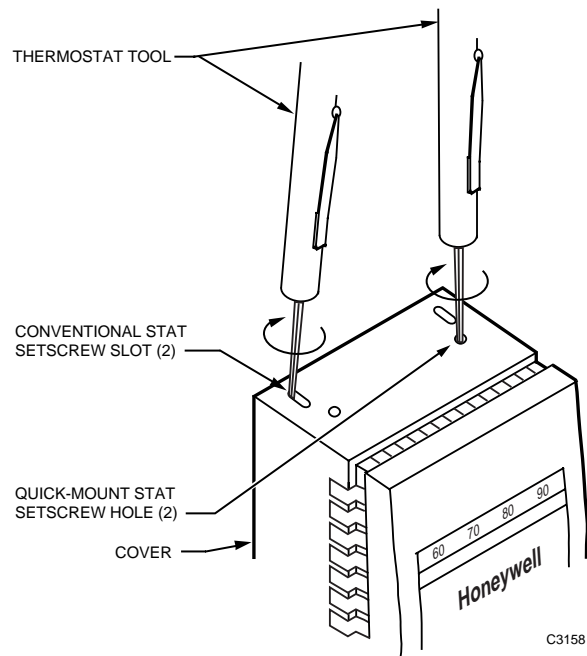

Fig. 16. Removing Cover.
2. Place Allen wrench end of Thermostat Tool through slot/hole and into setscrew (Fig. 16).